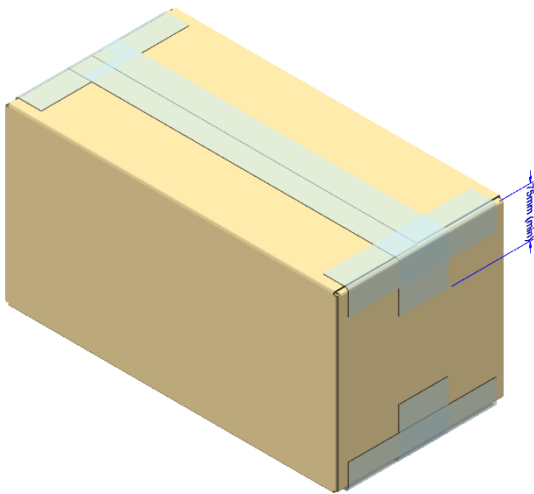

Figure 1: Closure of RSC box
- **RSC** (Regular Slotted Container) See Figure 1